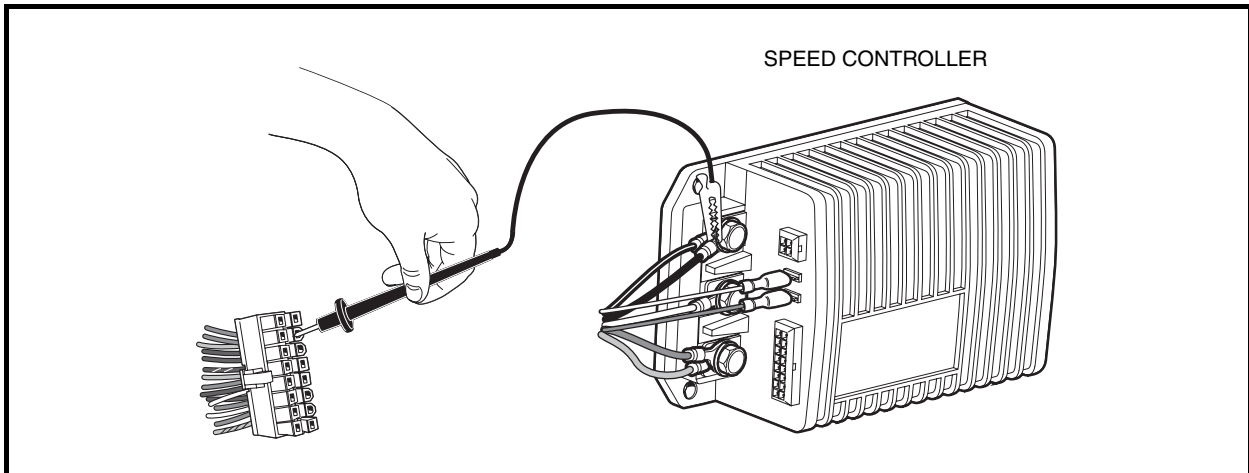

Figure 21-8 Pin 7 Test
4. Place a jumper wire with an alligator clip between the B– terminal of the speed controller (use alligator clip for this connection) and pin 7 (orange/white wire) of the 16-pin connector (**Figure 21-8, Page 21-23**). **See following CAUTION.**